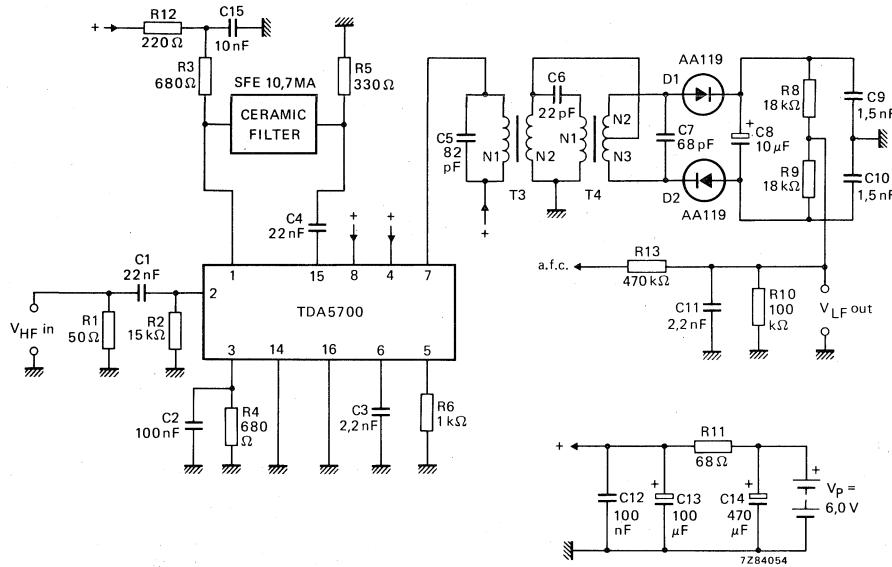

Fig. 6 Test circuit f.m. performance.
F.M. performance test circuit (Fig. 6)
F.M. — i.f. coils (Figs 6 and 9)